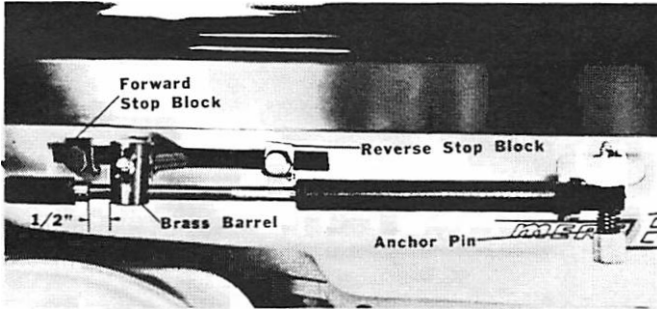

Figure 5. Engine Attachment
1. Adjust brass barrel so that it is 5/8" (15.9mm) from end of brass sleeve on engine end of control cable for Mere 700-600 engines, 3/8-to-1/2" (9.53mm-to-.500mm) for Mere 800. (Figure 5) Install cable to engine with barrel in this position.
3. Mount control cable to engine and note whether engine throttle lever touches front stop on engine's bottom cowl. (Figure 5)